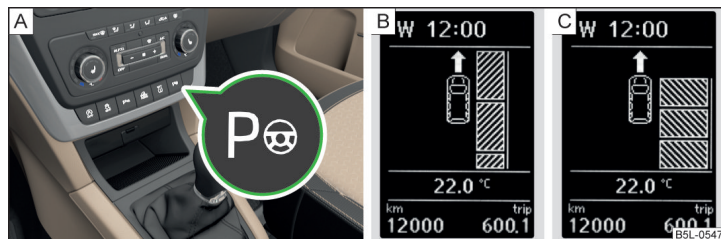

Fig. 139 System button / display
- The parking procedure can be stopped at any time by pressing the **P** » Fig. 139 on page 119 button or by a steering intervention.
The system can be activated/deactivated by pressing the **P** button » Fig. 139 on page 119 - A.
- ▶ Press the button once **P** » Fig. 139 - A.
- ▶ Press the button twice **P** » Fig. 139 - A.
- Press the symbol key **Pe** » Fig. 139 on page 119.